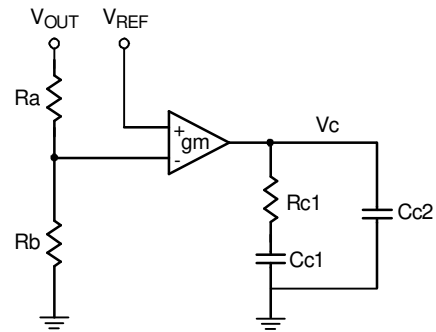
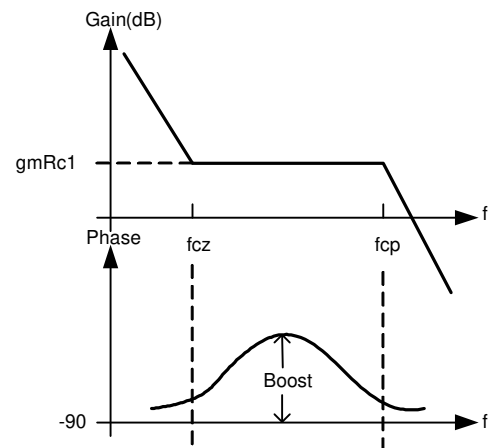

Figure 9. The typical type 2 trans-conductance error amplifier.
Figure 10. The Bode plot of type 2 trans-conductance error amplifier
So, the transfer function of compensator $C(s)$ must be designed to meet these requirements. In many applications, use an electrolytic capacitor as the output capacitor, if the zero (f_z) caused by Effective Series Resistance (ESR) of capacitor is a few kHz and smaller than 8 times f_P , the type 2 (PI) can be used to get desired compensation. Figure 9 shows the typical type 2 trans-conductance error amplifier and the Bode plot is also shown in Figure 10.